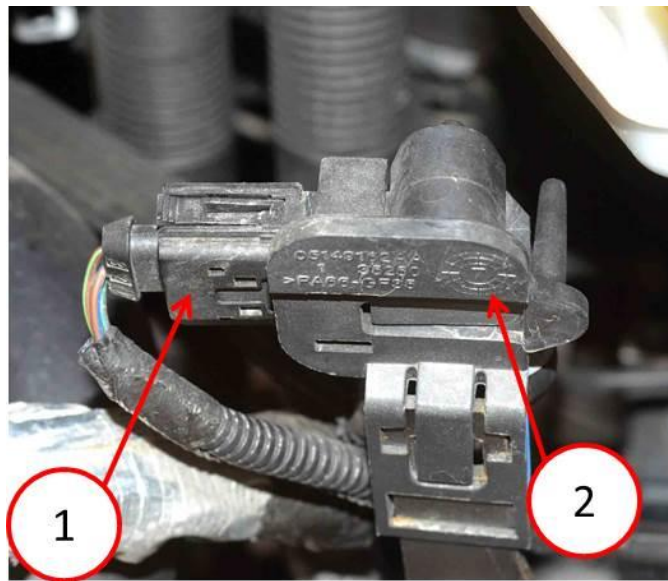

Fig. 2 Differential Pressure Sensor
3. Disconnect the differential pressure sensor harness connector and check for oxidation (Fig. 2).